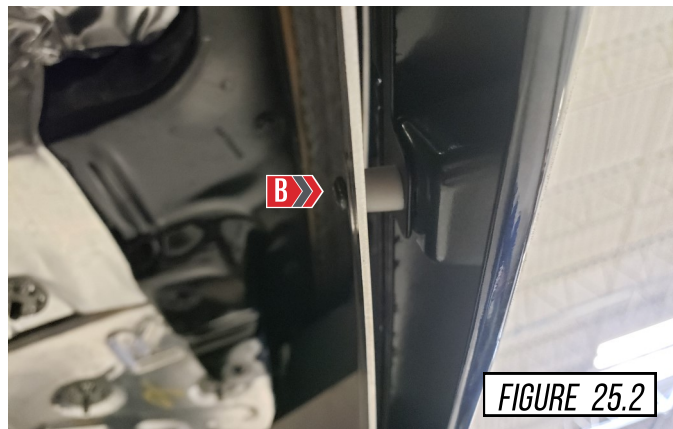

FIGURE 25.2
Install the AWE heat shield to the inside of the bumper, as shown in **Figure 26.1**. The top 2 holes (A) use the OE hardware and the bottom 5 holes (B) is using supplied hardware, as shown in **Figure 25.2**.